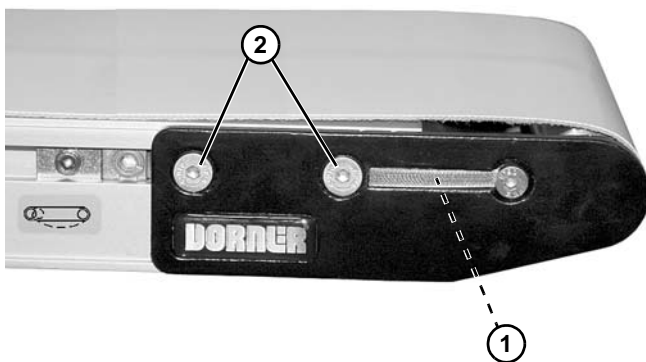

Figure 9
5. With a 5 mm hex-key wrench, rotate pinion gear (**Figure 9, item 1**) to tension the conveyor belt. Tighten fastening screws (**Figure 9, item 2**) on both sides of conveyor to 9 Nm. For proper tensioning, refer to “Conveyor Belt Tensioning” on page 20”.